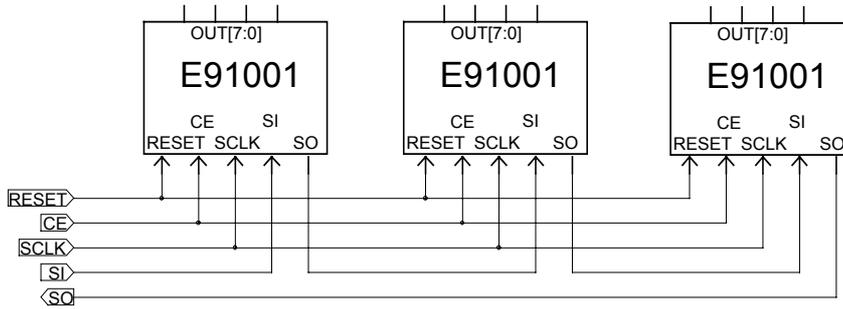

Figure 4.2-2
b) Serial data input (see Figure 4.2-2 and Figure 4.4-1)